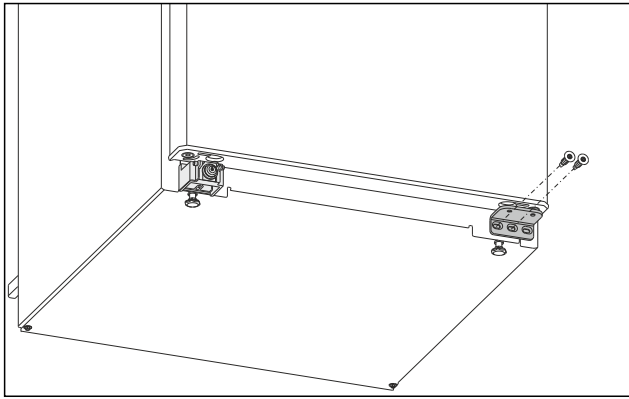

Fig. 6
- ▶ Unscrew the middle screw on the lower swap bearing block with a Torx 20 screwdriver. Fig. 6 (1)
- ▶ Unscrew the inner screw on the lower swap bearing block with a Torx 20 screwdriver. Fig. 6 (2)